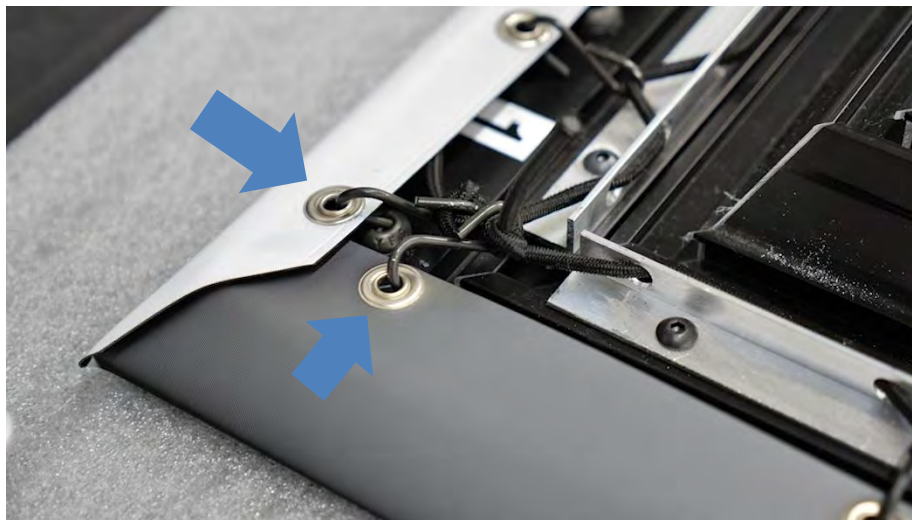

Figure 18: Cross lace corner hooks
f. The final hooks at each corner should be connected to the screen by **crossing the lacings**. The final S-hook on the vertical frame connects to the final grommet on the horizontal screen edge and vice versa (see Figure 18).